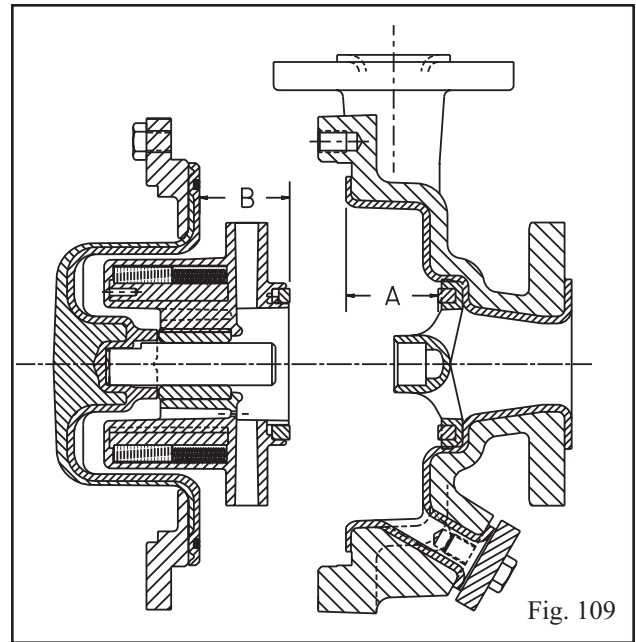

Fig. 109
7. Check rotary assembly total travel. See Fig. 109 for the appropriate measurements needed. For the XS pump, total travel is A - B and should be 0.026 - 0.083 in. (0.66-2.11 mm).
8. Install containment shell / impeller assembly into casing (100). Use care that the O-ring (412M) remains in place.
9. Install clamp ring (141C) to casing (100) with 6 hex cap screws (356A) (Fig. 109).